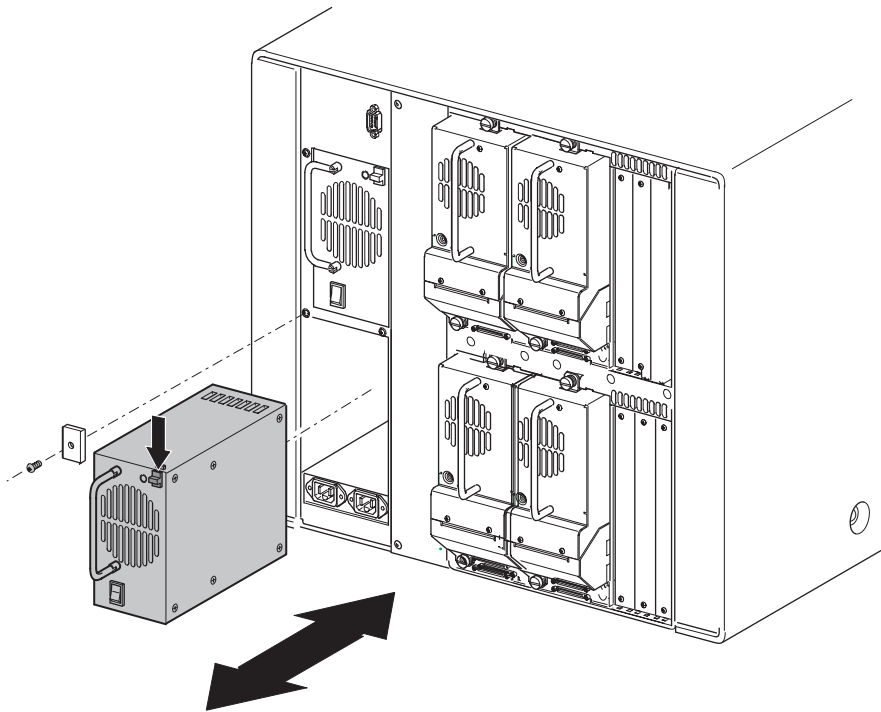

Figure 3–21: Power supply removal and replacement
3. Remove the mounting screw and washer securing the power supply locking bracket. (see Figure 3–21).
4. On the failed power supply, push down on the latch and then use the handle to pull the power supply out of the receiver (see Figure 3–21).
1. Position the power supply at the rear of the library with the latch at the top and the power switch at the bottom. (See Figure 3–21).
3. Replace the power supply locking bracket using the mounting screw (see Figure 3–21).